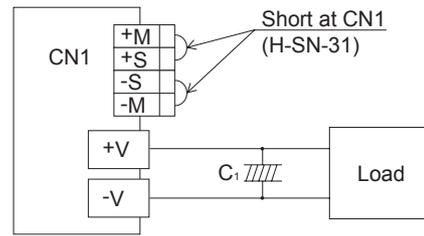
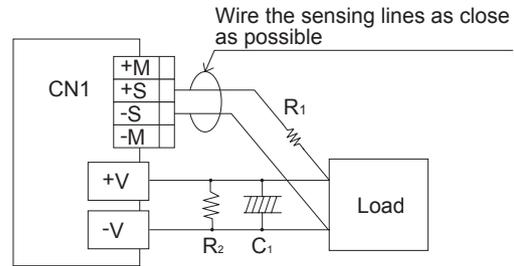

Fig.5.11 When not using remote sensing function
Fig.5.12 When using remote sensing function
- The wire connection when remote sensing is used or not used is shown in Fig. 5.11 - Fig. 5.12.
- ① Wiring must be done carefully. If there is bad connection on the load lines due to loose screws, etc., the load current flows into the sensing lines and the internal circuit of the power supply may be damaged.
- ② Make sure the wires between the load and the power supply are thick enough to keep the line drop less than 0.3V.
- ③ If the sensing wires are long, place C1 and R1 across the load lines.
- ④ Use a twisted pair wire or a shielded wire for the sensing lines.
- ⑤ Do not draw the output current from +M, -M, +S or -S.
- ⑥ The impedance of the wiring or the load may cause the output voltage to oscillate or fluctuate.